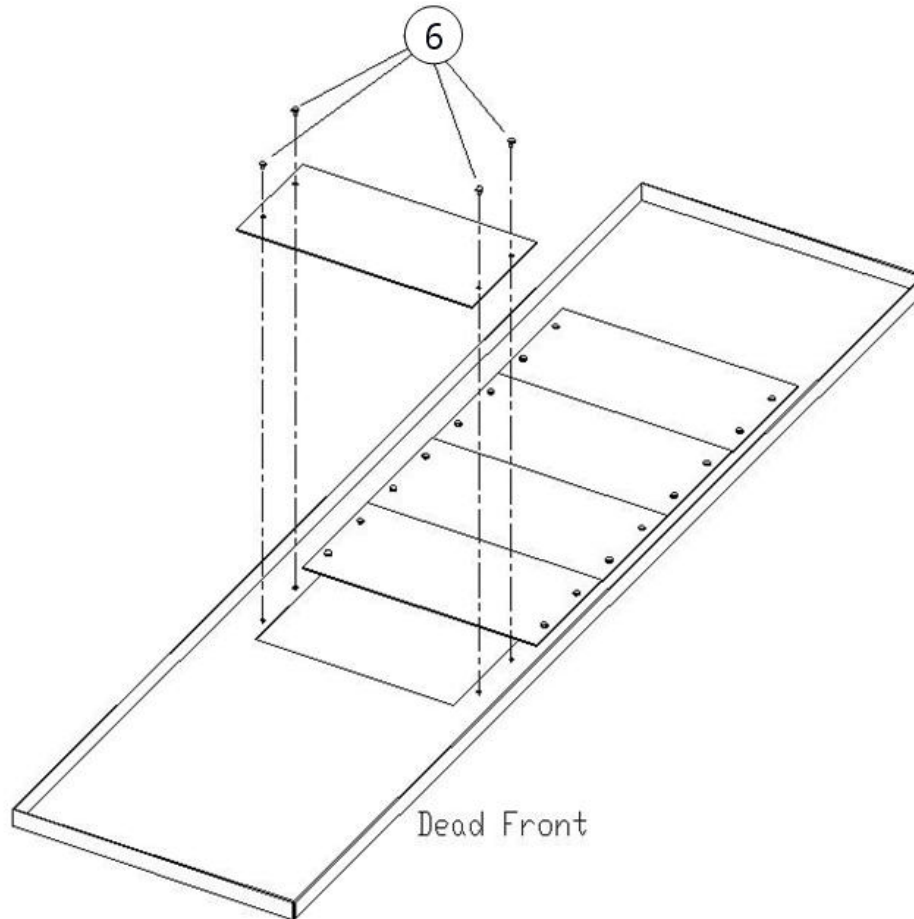

Figure 2. Removing the shield inserts from the shield for TEY breaker installation in A-Series® II Panelboards.
6. Remove the eight screws [6] of existing one filler plates from dead front where the TEY breaker needs to be installed, as illustrated in Figure 2